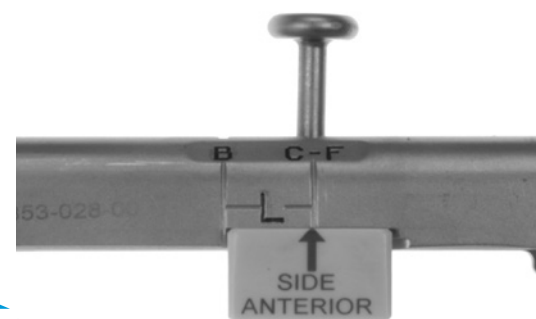

Fig. 151
- The etching on the tension pad must match up with the etching on the arm body indicating which side femoral component ('L' for left or 'R' for right) is being serviced (Fig. 151).